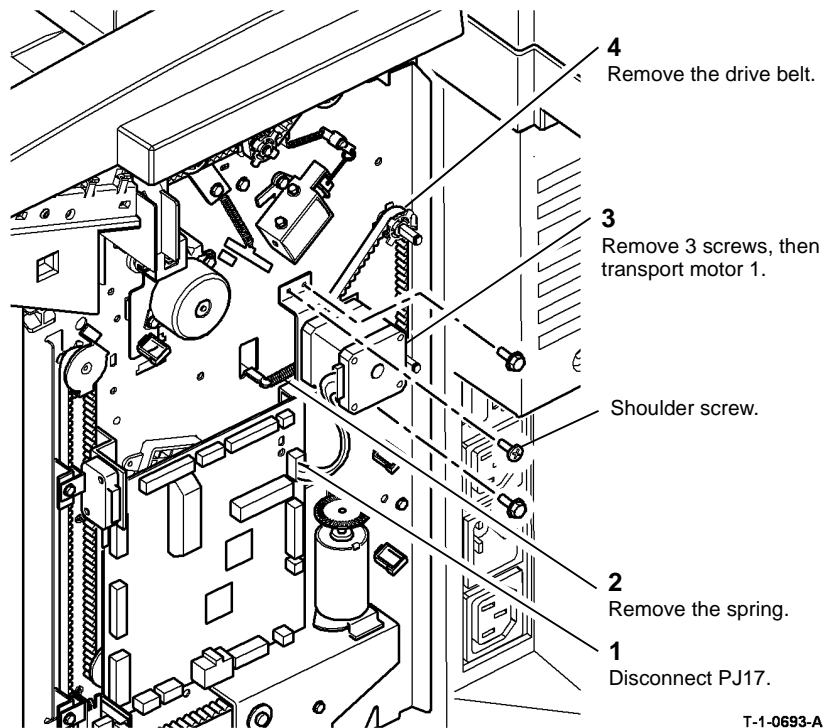

Figure 1 Removing the drive belt
2. Remove transport motor 1 and the input drive belt, Figure 1.
NOTE: Ensure that the shoulder screw is installed in the correct position. Refer to Figure 1.